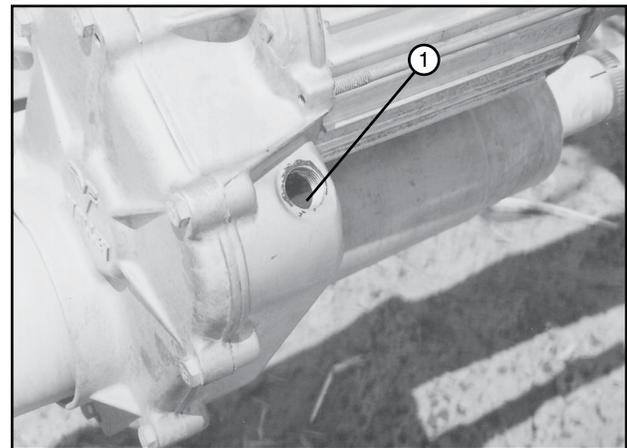

Figure 41-2 1. Bottom Of Fill Plug Hole
2. Fill the gearbox 1-7/8 in (48 mm) from the bottom of fill plug hole with Valley Gear Lube. The capacity of the gearbox is approximately 44 oz (1.3 liter). See figure 41-2.